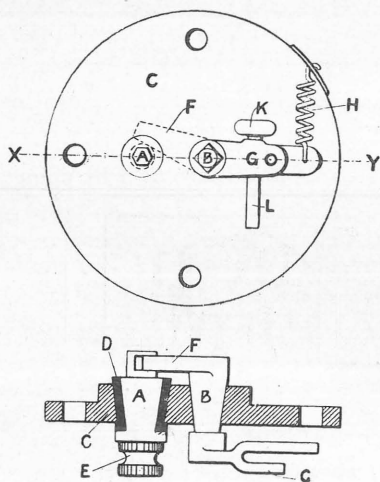

Fig. 6.—Trip gear for making and breaking contact in the cylinder,
Fig. 6 shows how this may be done. The insulated rod (A) and the rocker (B) are both fitted in a plate (C), which is bolted to the side of cylinder. A great advantage of this is that if anything goes wrong with the gear it can be taken right away from the engine and put right. In the upper part of the drawing we are supposed to be looking at the "trip" gear from the side; in the lower part the plate (C) is supposed to be "sectioned," or cut in half through the dotted line (X Y) of the upper drawing, so that we look down on